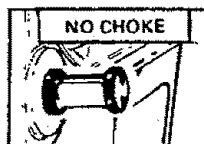

Figure 8
- After 5 second warm up, push choke knob in fully. Figure 8.
- Push choke knob in fully. Figure 8.